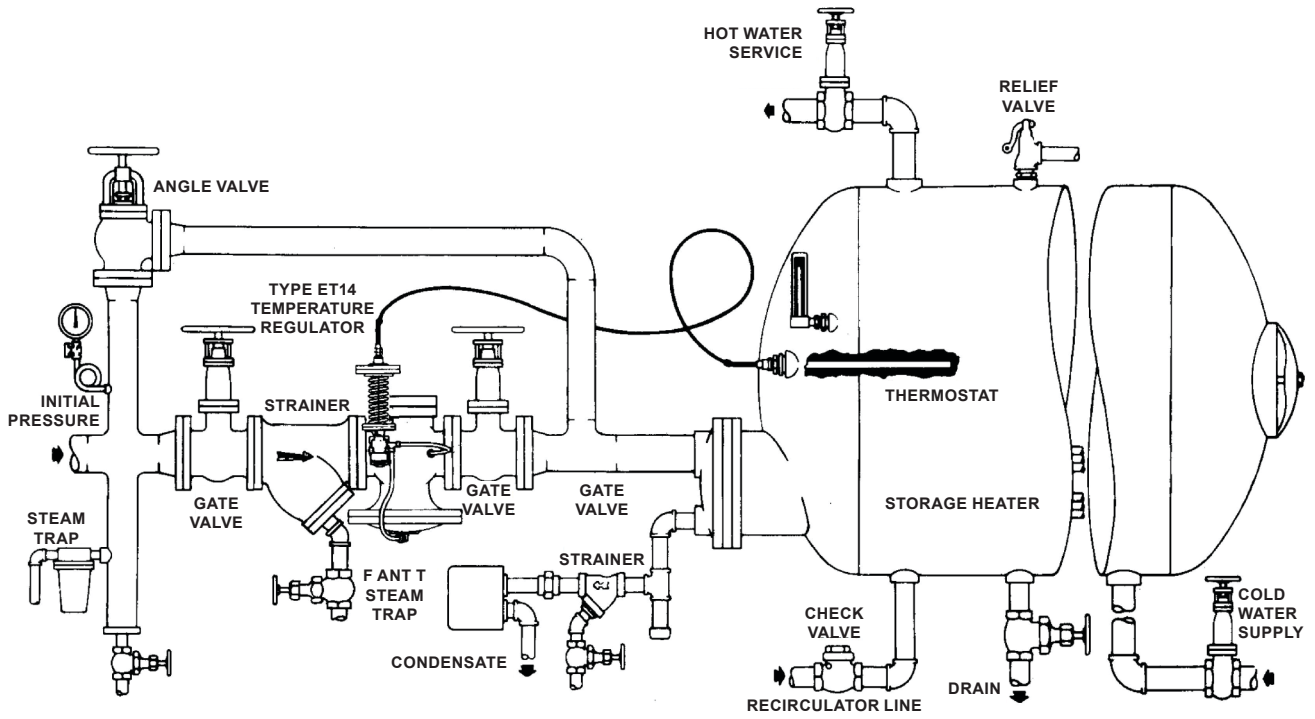

Figure 2. Typical Installation
Steam flows to the pilot through the connecting nipple and union (see Figure 2). At the No. 8B tee on the pilot outlet, the flow divides. One branch is connected to bleedport No. 4A and the other to restriction elbow No. 5A and the underside of the main valve diaphragm. Bleedport No. 4A restricts the flow, builds pressure under the diaphragm and opens the main valve. Restriction No. 5A steadies the operation of the regulator.
Insulation may be applied to the upper portion (globe and flanges) of the main valve. Do not insulate the diaphragm chamber or any part of pilot. See Figure 2.
4. Turn temperature adjusting wheel (Figure 2) to obtain desired control temperature.
1. Close bypass, open 1/4 in. / 6.35 mm control pipe valve. Turn up the temperature adjusting wheel (Figure 2) until 1/2 in. / 12.7 mm of thread is exposed.